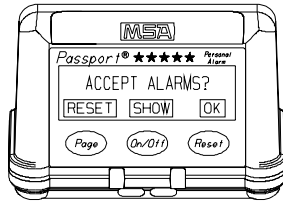

Figure 1-12. Accept Alarms
- The instrument then asks user to verify that alarm setpoints are acceptable (FIGURE 1-12).